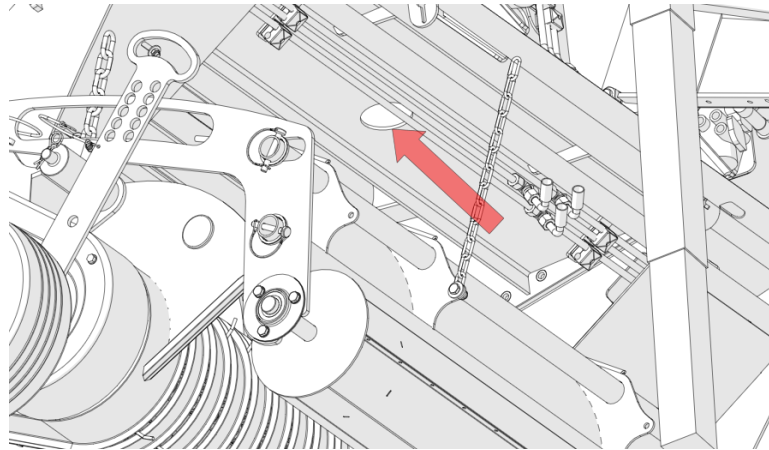

Figure 23. Drain cap
- Unscrew and remove the cap located on the bottom of the transmission box (Figure 23) You can access it through the hole in the bottom part of the front bar, over the pick-up